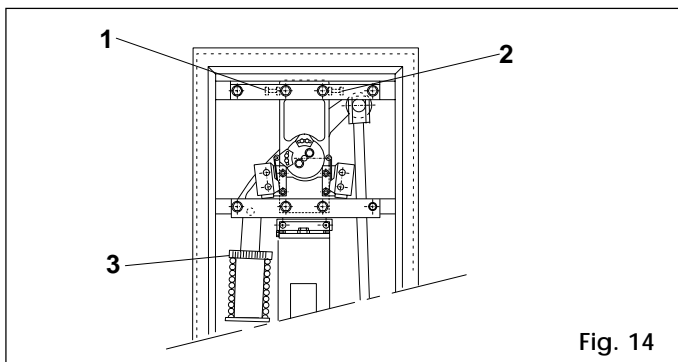

Fig. 14
- 5) Adjust the mechanical stops for opening and closing strokes as shown in Figure 14 (1 and 2). Check beam balancing as described in paragraph 4.4.
- 2) Adjust the pre-loading ring nut (3, Fig. 14) .